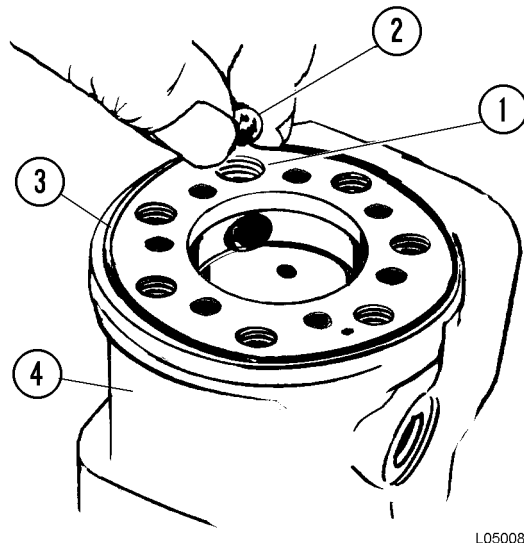

FIGURE 50-11. CHECK BALL INSTALLATION
- Install check ball (2, Figure 50-11) in hole (1). Install and lightly tighten the threaded bushing.
- Lubricate O-ring (3) with light grease and install it in the groove of housing (4).